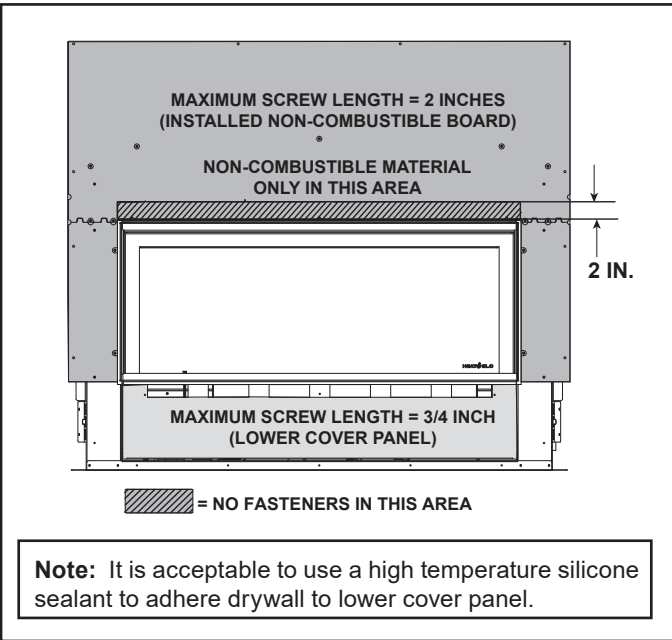

Figure 10.1 Screw Length Requirements
- Metal front of appliance may be covered with non-combustible materials only, excluding lower cover panel. See Figure 10.1.
- Seal gaps between the finished wall and appliance top and sides using a 300 °F minimum sealant. Refer to Figure 10.1.
When finishing the wall around the fireplace, it is critical that wall sheathing be fastened properly. Wall sheathing fasteners, such as screws or nails, are not permitted in some locations. See Figure 10.1.
It is acceptable to pre-drill holes and use self-tapped screws in the factory-included non-combustible board which may be used to lathe (a backer for tile, marble, etc.). Screws being installed through the installed non-combustible board should be self-tapping type with a maximum length of 2 inches. See Figure 10.1.
When installing finish material on the lower cover panel, DO NOT drill or install screws longer than 3/4 of an inch. Screws longer than 3/4 of an inch could penetrate the lower cover panel causing damage to components or penetrate the gas line. See Figure 10.1.